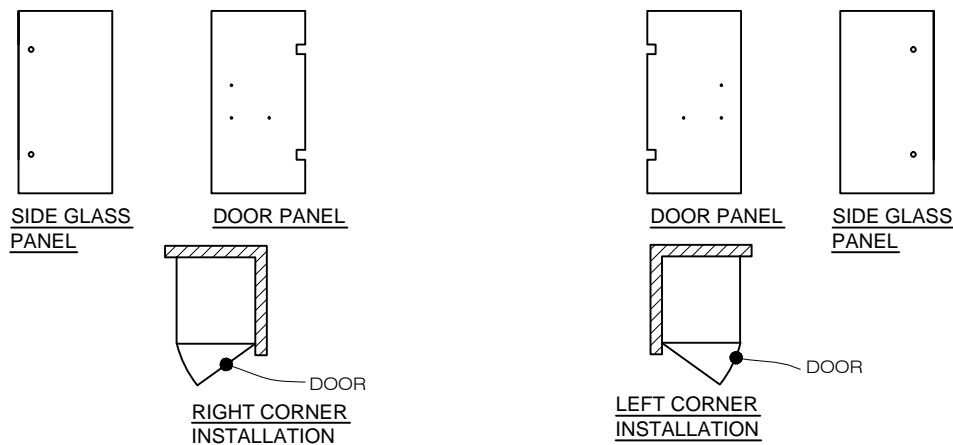

FIG. 1A (GLASS CONFIGURATION DIAGRAM)
1. Arrange glass to the preferred configuration. [SEE FIG.1A]